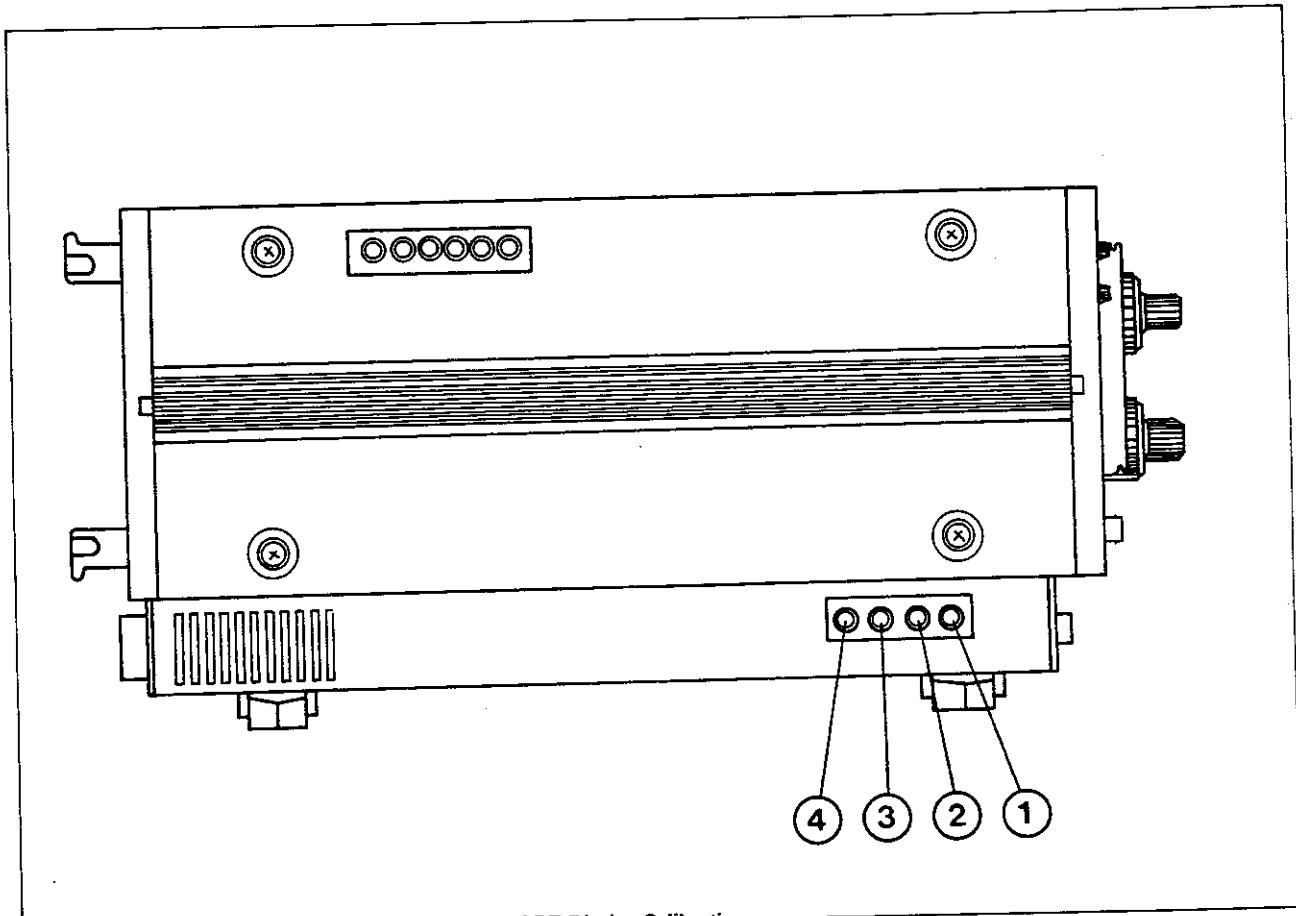

Fig. 2-28 CRT Display Calibrations
If the CRT display signal waveform fails to vary by the normal amount when the **TR4132/4132N RF ATT., IF GAIN** or input signal is changed by 10 dB, calibrate the scale by adjusting with control **② (Y GAIN)** shown in Fig. 2-28.
If the base line is not on the horizontal graticule line, correct it by using the control **① (Y POSI.)** also shown in Fig. 2-28.
Next switch **MEMORY ON**, and check that the CRT display signal waveform does not move. If it does move, adjust control ③ (**X POSI.**) shown in Fig. 2-28 until no further movement is detected.
Calibrate the horizontal scale on the CRT screen to 100 MHz per scale division with the **DISPERSION/DIV.** control in the 100 MHz/DIV. position, using control (4) (**X GAIN**) shown in Fig. 2-28.